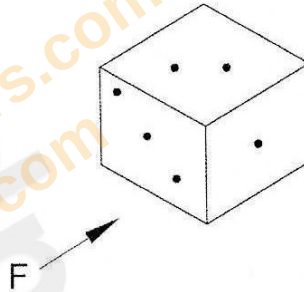

Figure 2
- 7 The drawing in **figure 2** shows a Dice drawn in isometric projection.